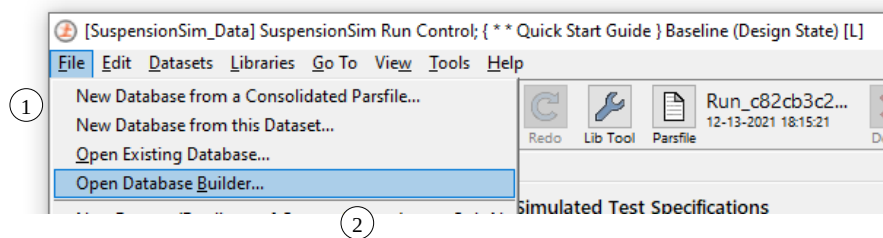

Figure 3. Using the File menu command Open Database Builder.
You can access the Database Builder any time after the initial installation of SuspensionSim. It can be viewed whenever the **Select Recent Database** window appears. It can also be brought up from within SuspensionSim using the File menu (1) command Open Database Builder (2), Figure 3.